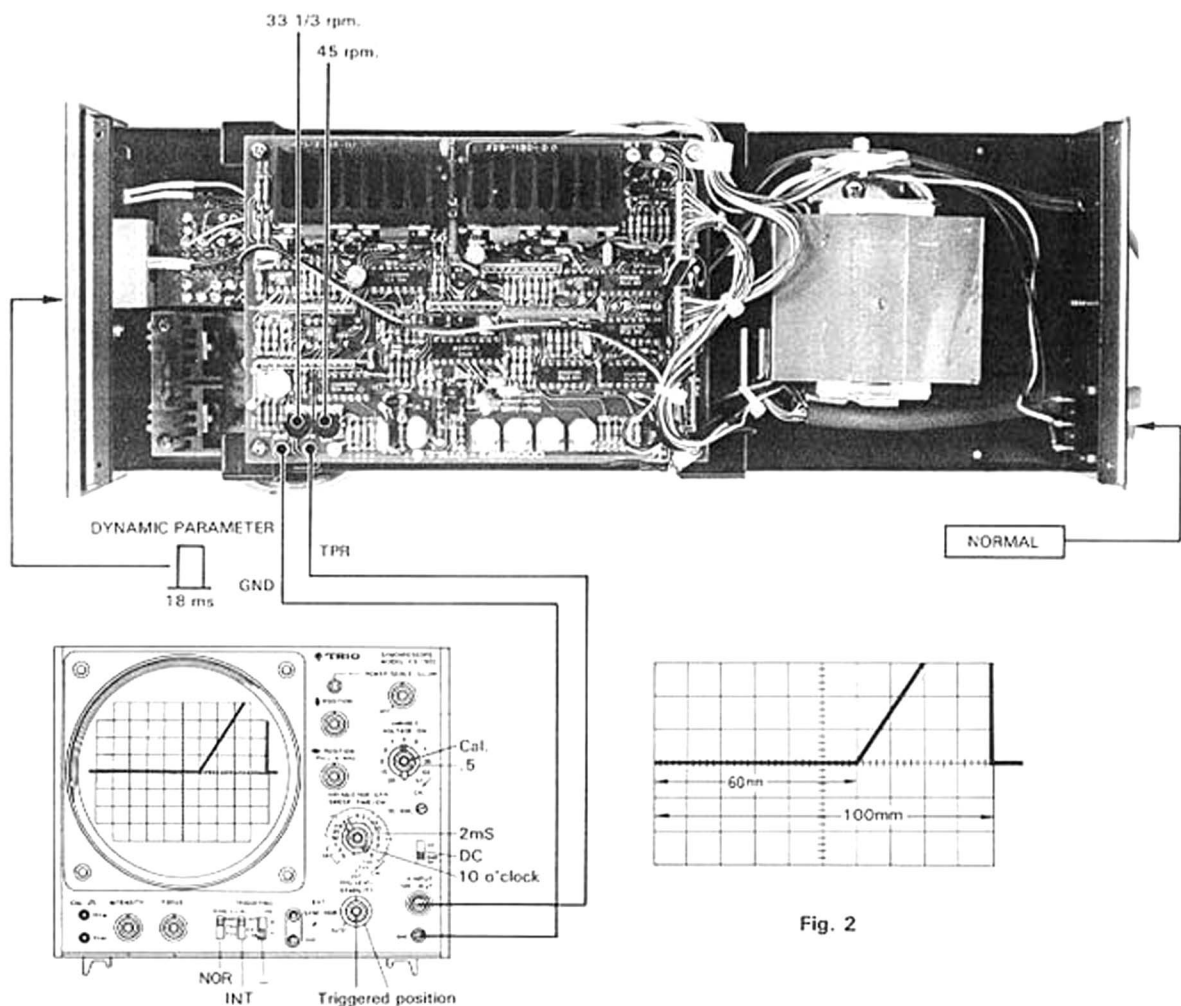

Fig. 1
3. Set the sweep time and the VARIABLE/HOR. gain on the oscilloscope so that the width of the one period waveform is 100 mm as in Fig. 1.